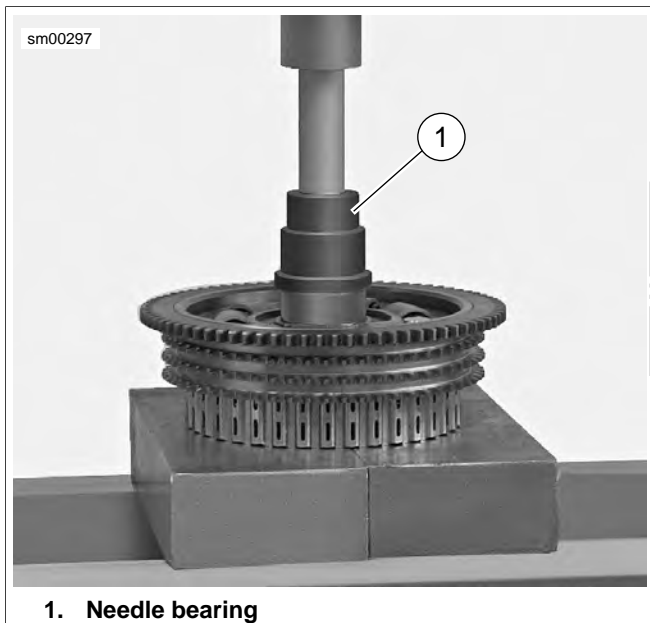

Figure 5-33. Installing Clutch Shell Needle Bearing
- See Figure 5-33. Place clutch shell on support blocks with sprocket side facing up.